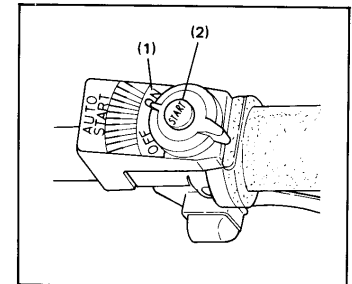

Fig. 10
2. Turn the switch to the "On" (1) position and depress the start button (2) until the engine starts. Warm the engine by running at idle speed for 2 to 3 minutes. (See Fig. 10)
(See Fig. 10)